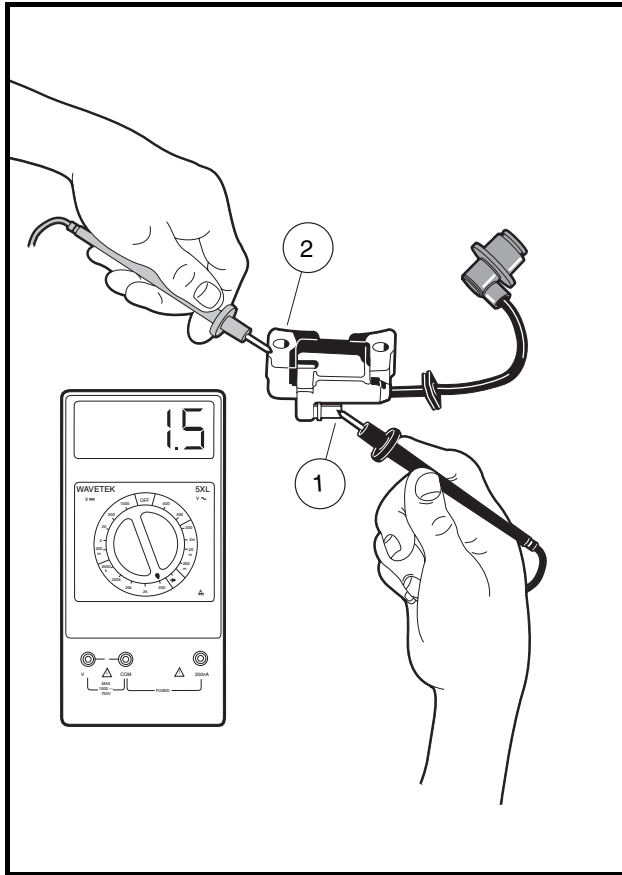

Figure 11-24 Primary Coil Resistance – Bench Test
- 2.1. Place the black (–) probe of the meter on the terminal on the ignition coil (1), and place the red (+) probe on the core (2) (**Figure 11-24, Page 11-25**).